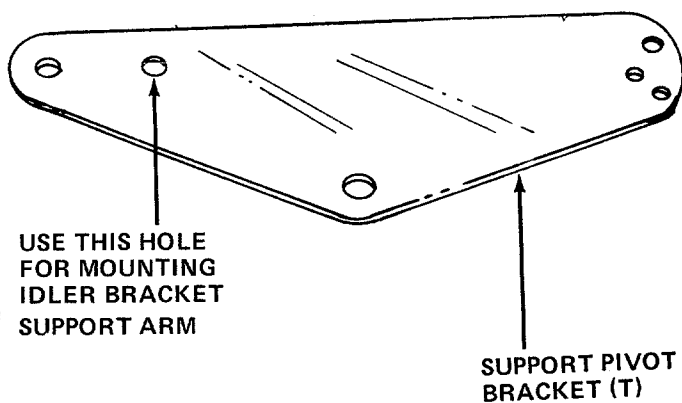

FIGURE 3
2. Preassemble the idler bracket support arm (S) to one support pivot bracket (T) and idler bracket assembly as follows.
- A. Place the idler bracket support arm through the hole in support pivot bracket as shown in figures 3 and 4.